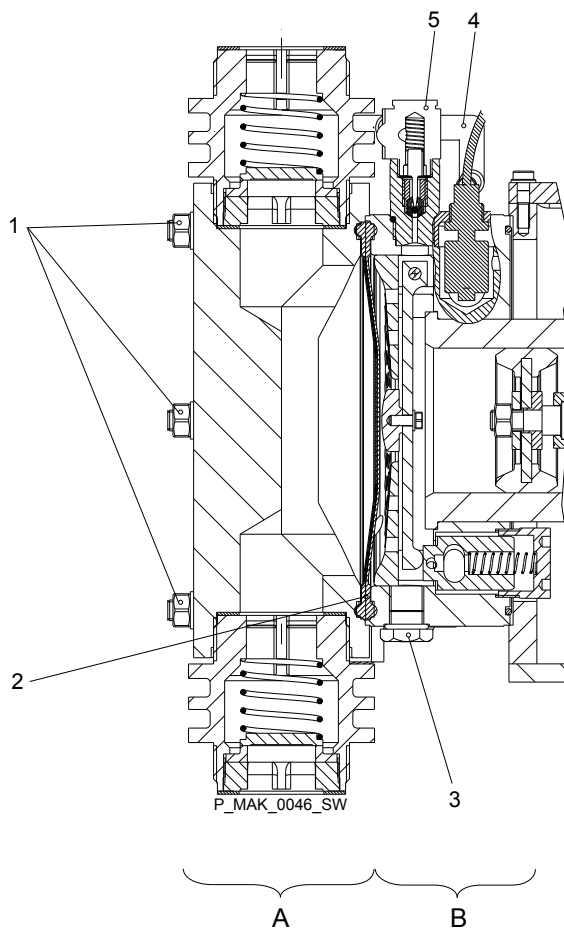

Fig. 22: Cross-section through the liquid end and hydraulic end
- 6.** ➤ Only drain the hydraulic oil from the hydraulic end via the clear acrylic plug (3) - see Fig. 22.